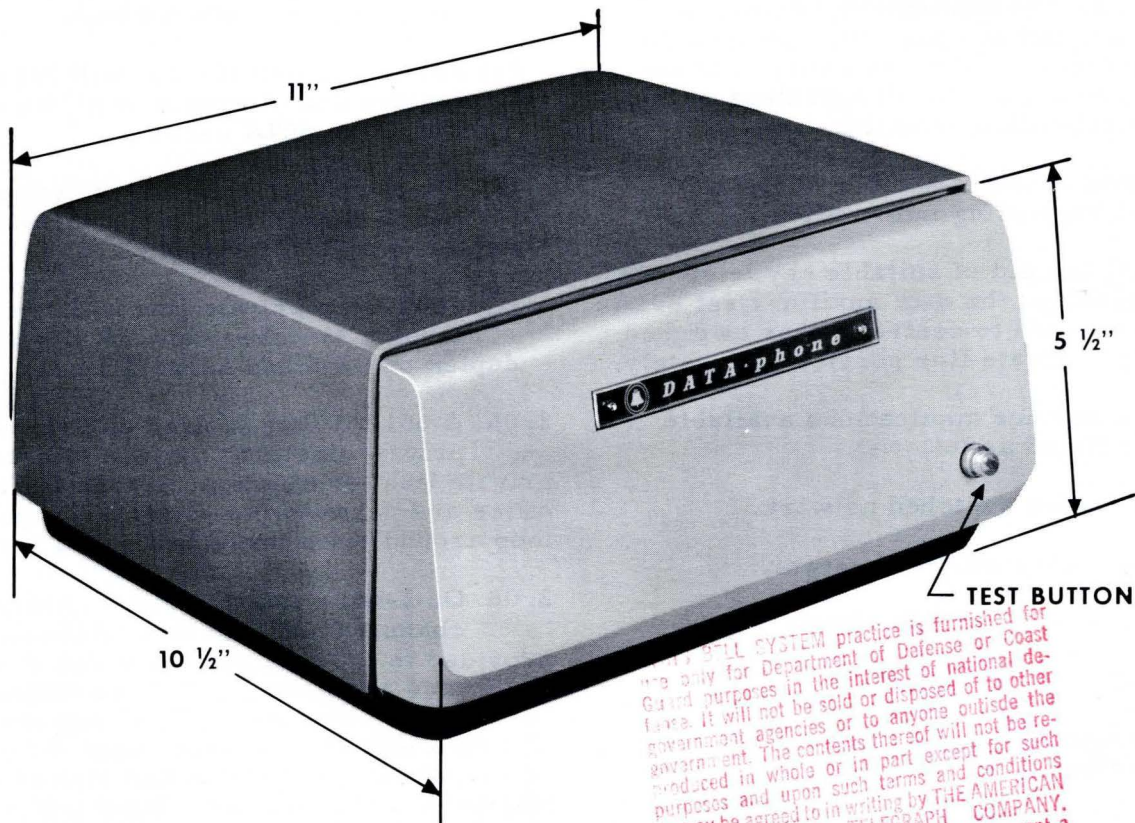

Fig. 1 - Data Set 202D Type
1.01 Data set 202D type (Fig. 1) is designed for DATA-PHONE and private line service. It is a transmitting-receiving data terminal to be installed on the customer's premises.